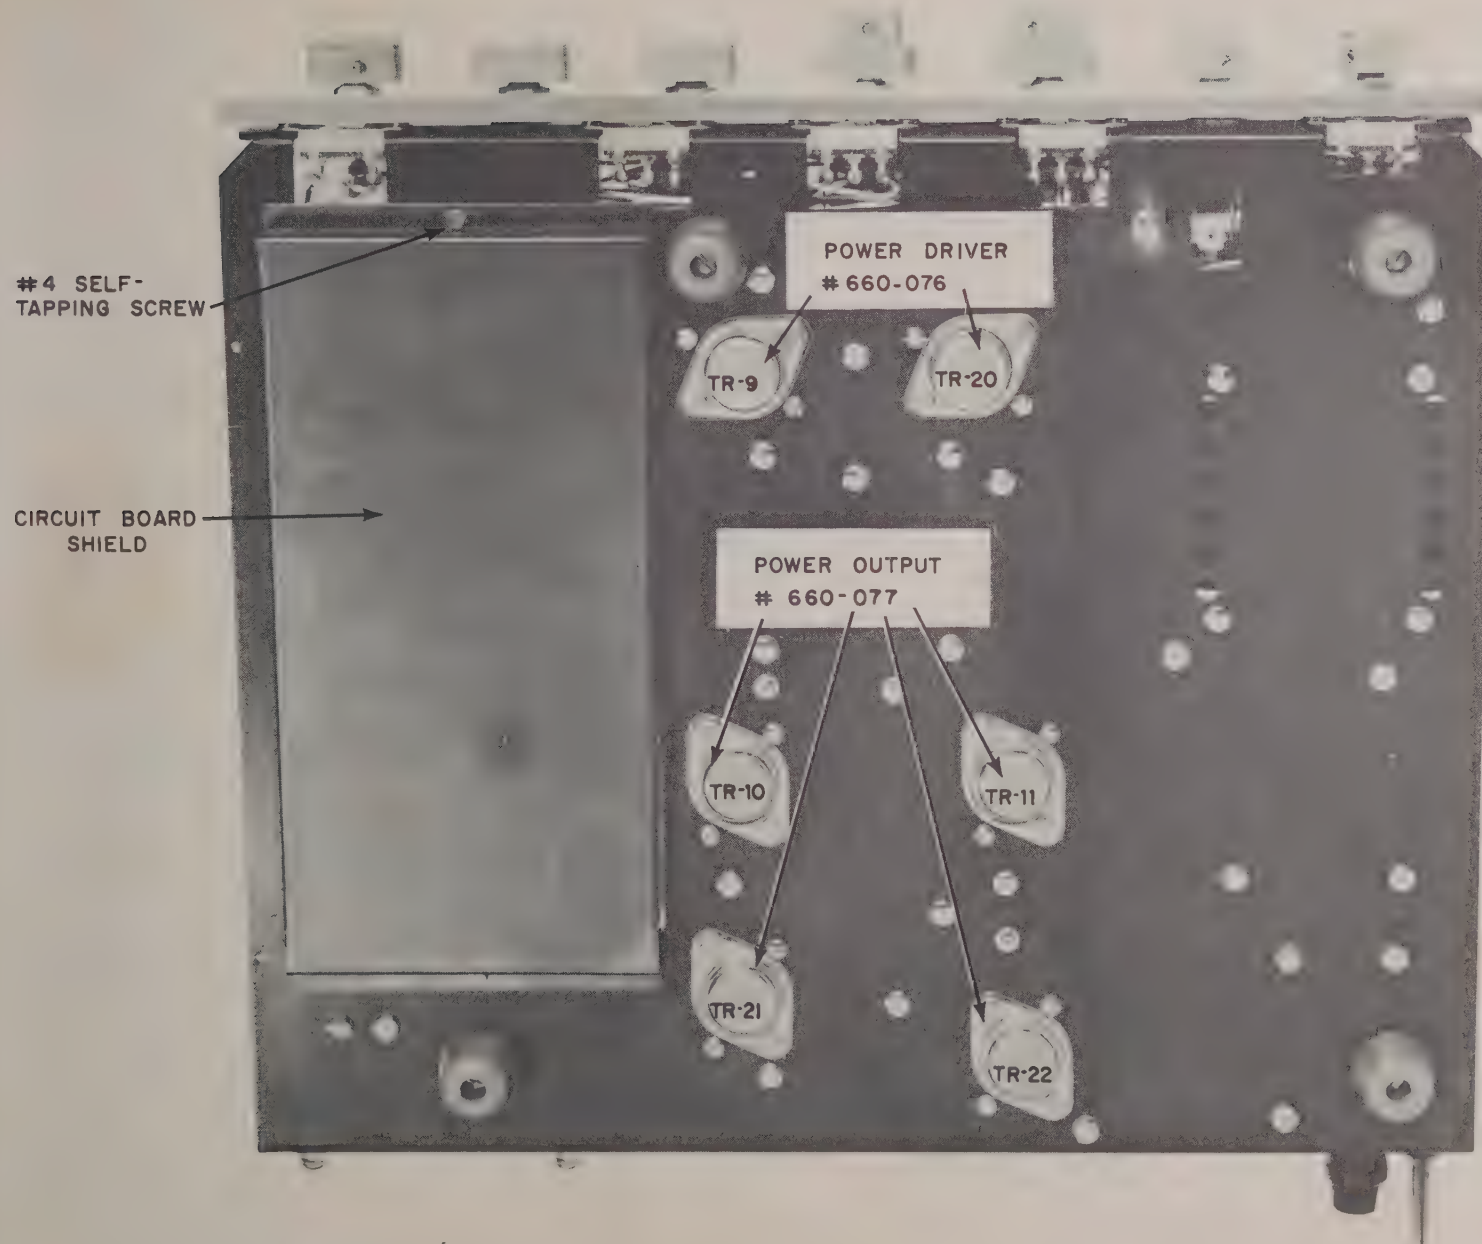

FIGURE 34. POWER TRANSISTOR LOCATION
SEE FIGURE 34.
- ☒ Refer back to Figure 34. From the bottom of the chassis, carefully push the circuit board shield into place. All wires connected to the large circuit board must fall **inside** the shield. Fasten the shield with two #4 self-tapping screws. **BE SURE** that the shield does not touch the bottom of the circuit board, or any wires that might extend from the foil. Ends of wires connected to the top of the board must not touch the shield.